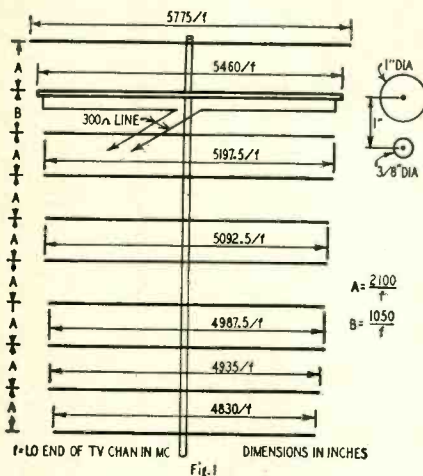

Fig. 1—Diagram of 10-element Yagi.
A. The diagram (Fig. 1) shows the construction of a 10-element Yagi with constants which may be used to find the dimensions in inches for any frequency for which a Yagi is practical. Simply divide the constants by f , the low-fre-